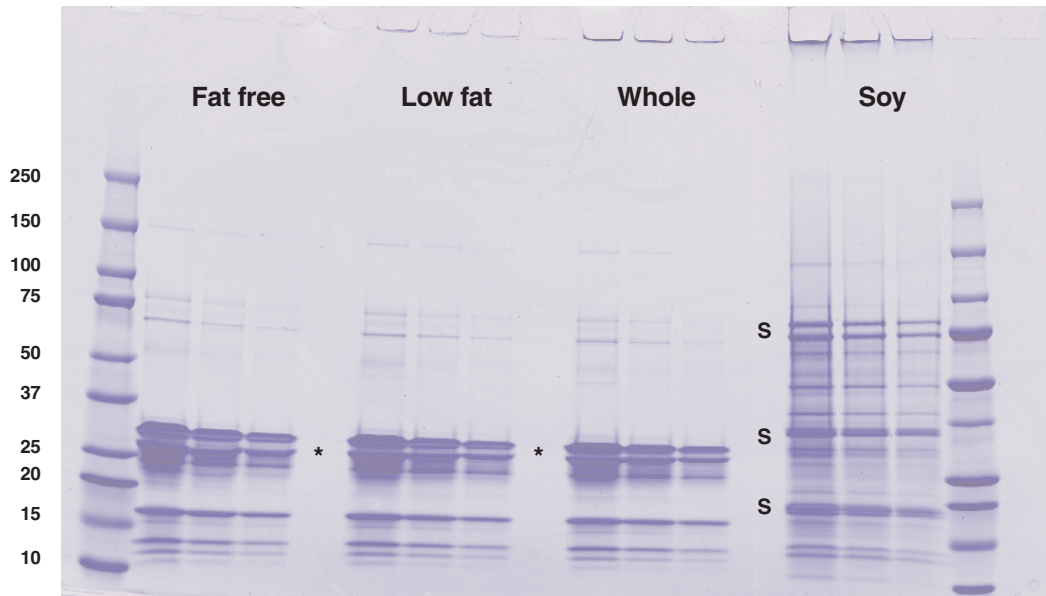

Fig. 7. Electrophoretic analysis of proteins from milk samples.
- After quantitating the protein content in milk, dilute the protein samples to 1 mg/ml in Laemmli buffer. Electrophorese 20 μ g, 10 μ g, and 5 μ g of total protein on a gel, and try to pick out the main protein bands in the different samples. In the gel in Figure 7, four different types of milk samples were analyzed: fat free, low fat, whole, and soy milk.
- The most abundant protein in milk samples from bovines is casein, which migrates at ~25 and 28 kD (denoted with an "*" in Figure 7). Because casein is highly allergenic, an alternative milk source for those individuals allergic to casein is soy milk, which is derived from plant sources. Note that soy milk does not contain the prominent casein band, but instead contains several proteins unique to soy (denoted with "S").